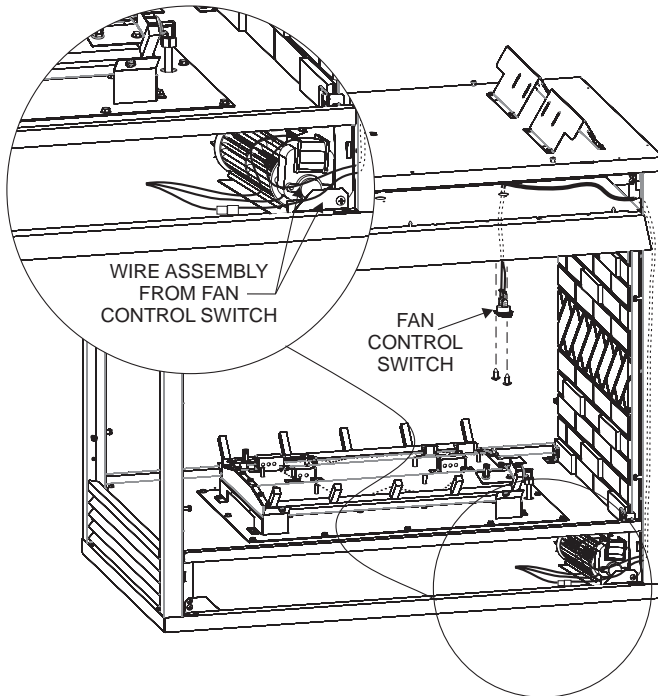

Figure 25
6. Next, find the fan control switch and wire assembly. Feed the wires through the hole at the top of the firebox, and secure the fan control switch with two (2) #6 screws (provided). The fan control wires will slide down between the firebox and outer wrap near the blower assembly. **See Figure 25.**